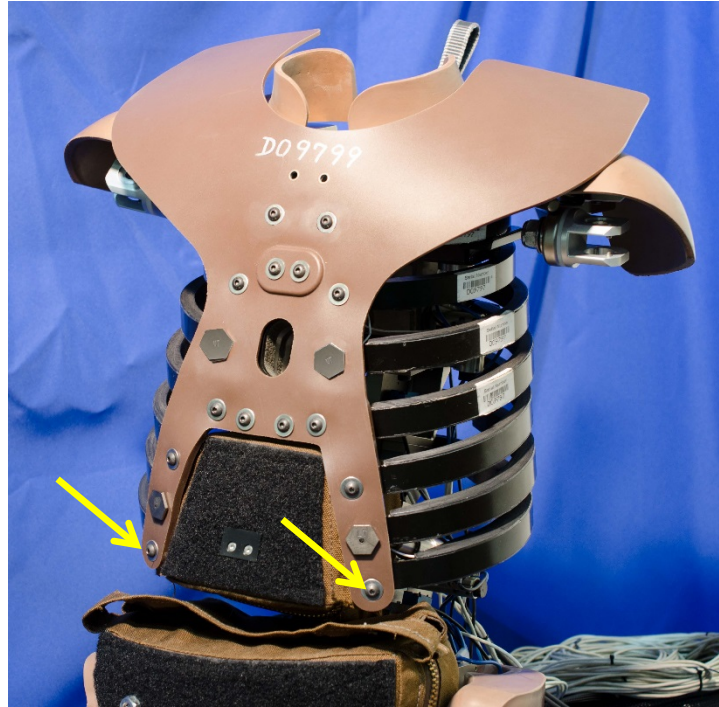

Figure 6-58. Install Rib #7 at sternum
6.2.2.49 To attach Rib #7, install M5 clip nuts on both rib ends. The bottom grommet of the Upper Abdomen Bag should be between the bib and the rib. Loosely secure the rib to the bib using M5 x 15 x 1.2 flat washers and M5 x 0.8 x 20 BHCS (Figure 6-58).